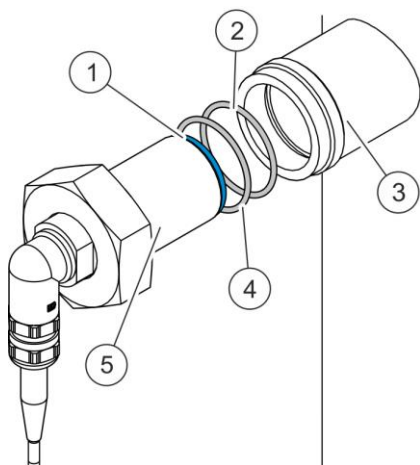

Fig. 68: Attaching O-rings
1. If the O-ring (Fig. 68/1) was removed with the transmitter (Fig. 68/5) from the assembly opening of the oil mist ventilation pipe (Fig. 68/3), grease the O-ring with acid-free grease or motor oil.
2. Place the O-ring (Fig. 68/1) in the assembly opening of the oil mist ventilation pipe (Fig. 68/3).
3. Insert the O-rings (Fig. 68/2, 4) into the grooves located in the assembly opening of the oil mist ventilation pipe.
4. Grease the exterior surface of the transmitter (Fig. 68/5).
5. Manually insert the transmitter (Fig. 68/5) into the assembly opening of the oil mist ventilation pipe.